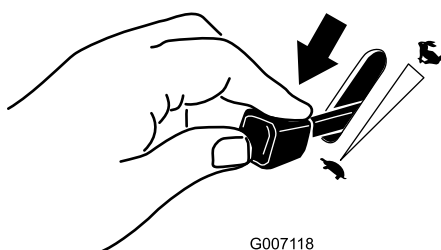

Figure 24
1. Move the throttle lever to the Slow position (Figure 24).